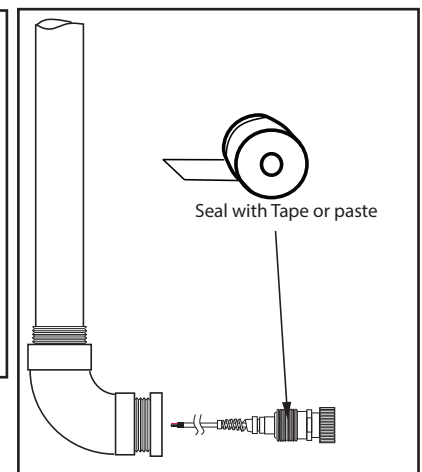

FIG. 24
- C) Attach UVT-SW cable assembly to reducer (1" threads on both) and seal with sealing tap or paste. See FIG 24